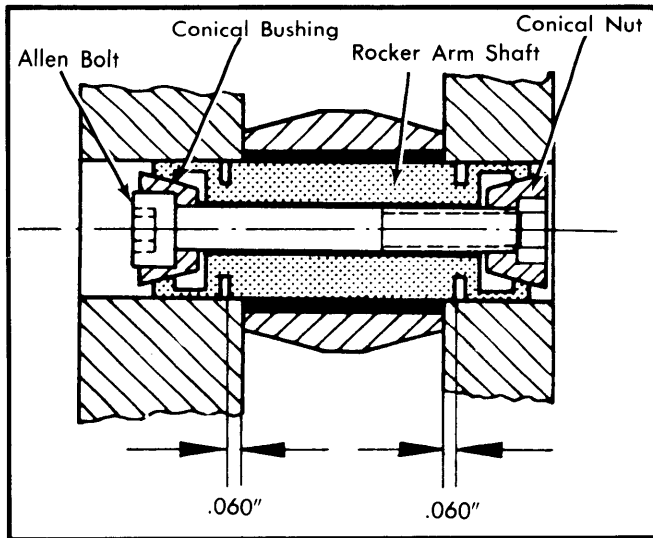

Fig. 1 Cross Section of Rocker Arm Shaft Assembly
4) Install rocker shafts and arms so grooves in shafts are recessed approximately .060" (1.52 mm) into bores. See Fig. 1. Tighten Allen bolts using suitable tools (P 210 & P 211).
Using an Allen wrench, loosen rocker arm shaft bolt. Slide rocker shaft out of cylinder head and remove arm. Check rocker arm shaft and bushing for wear and replace as required. Install rocker arm shaft with Allen bolt facing either No. 2 or No. 5 cylinder. Center shaft in housing and tighten Allen bolt. See Fig. 1.